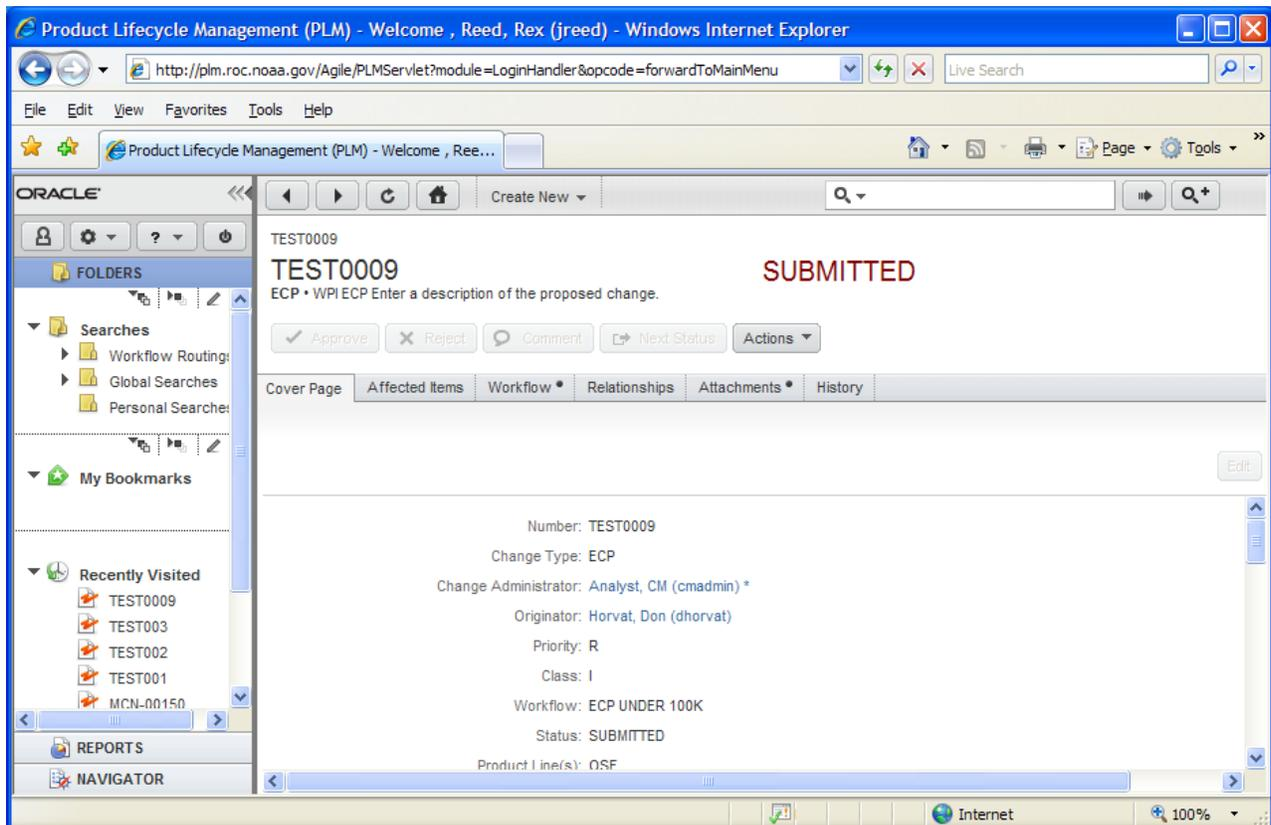

Figure 34: ECP as Submitted status.
- j. Once the branch chief has provided his approval, the ECP will automatically move forward to **Submitted** status (Figure 34). The process for handling submitted ECPs is described in **Section 7** of this WPI.